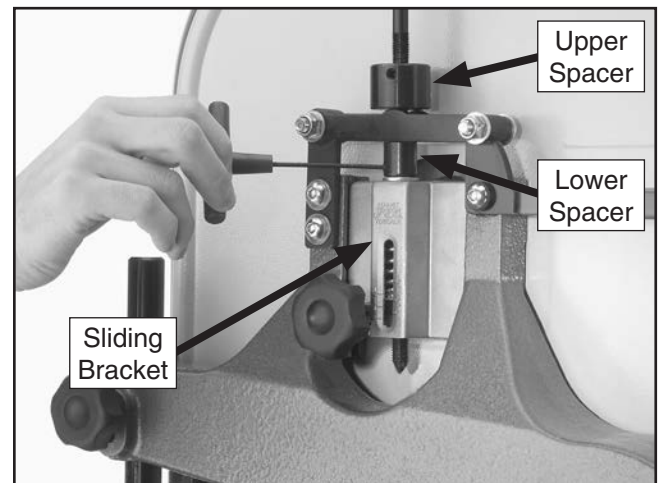

Figure 51. Loosening the spacer set screws.
4. Loosen the setscrews in both of the spacers indicated in **Figure 51**.
11. Thread the lower spacer down until it touches the top of the sliding bracket indicated in **Figure 51**.
12. Move the lower spacer back up the shaft about 1-2 turns to leave a small space, and tighten the setscrew (**Figure 51**).